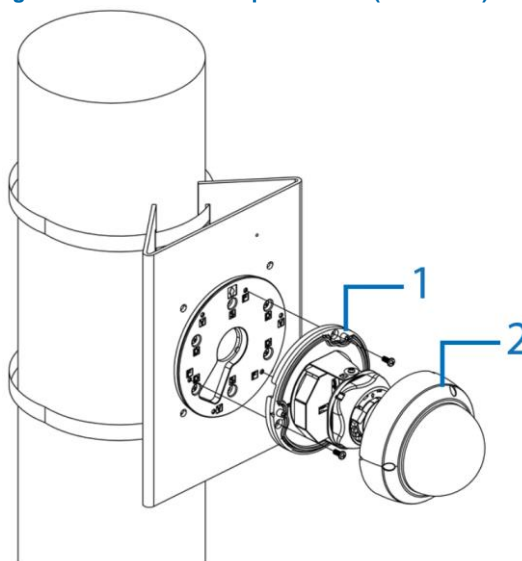

Figure 8
- F. Hold the camera base (1) (Figure 8) up to the adaptor plate and align the three holes on the camera base with the three 'F' holes on the adaptor plate.
- H. Insert the three dome cover screws into the three holes on the dome cover (2) (Figure 8) and securely attach it to the camera base.